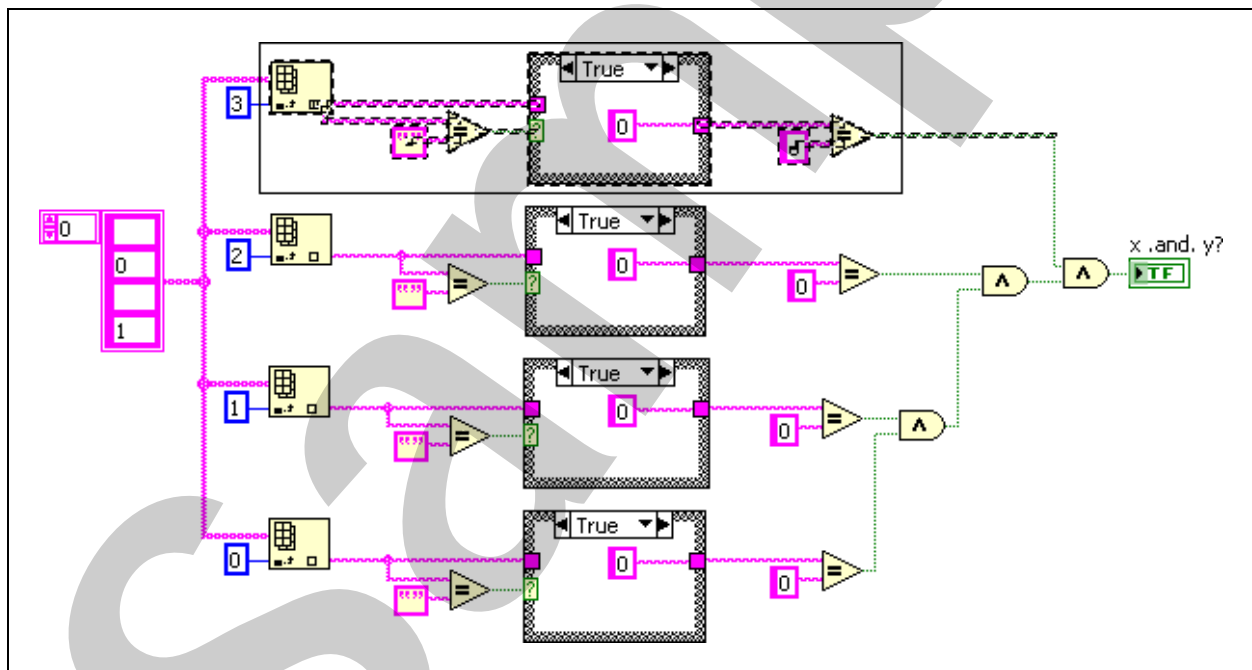

Figure 2-4. Duplicate Code VI with Code Section Selected
- On the block diagram, select the code outlined in Figure 2-4.